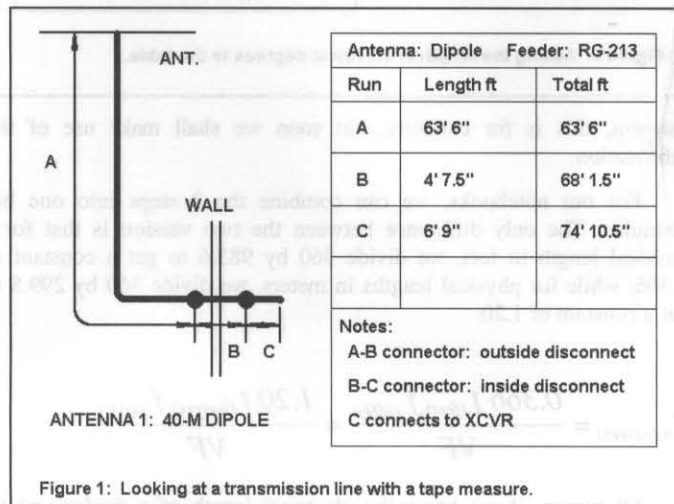

Figure 1: Looking at a transmission line with a tape measure.
Now make a sketch and a chart, as suggested in **Figure 1**. Note that every sub-length is listed, as well as totals for a given run between
1. *Velocity Factor (VF)*: Look at **Table 1**, which provides some significant data on a few common types of feeders, both coaxial and parallel. For the moment, we are interested only in the column labeled "velocity factor." This column tells us how long that a length of the feeder is in terms of its relationship to a wavelength of RF energy. Since the example in **Figure 1** uses RG-213, we need only a glance at the table to see that its velocity factor is 0.66.